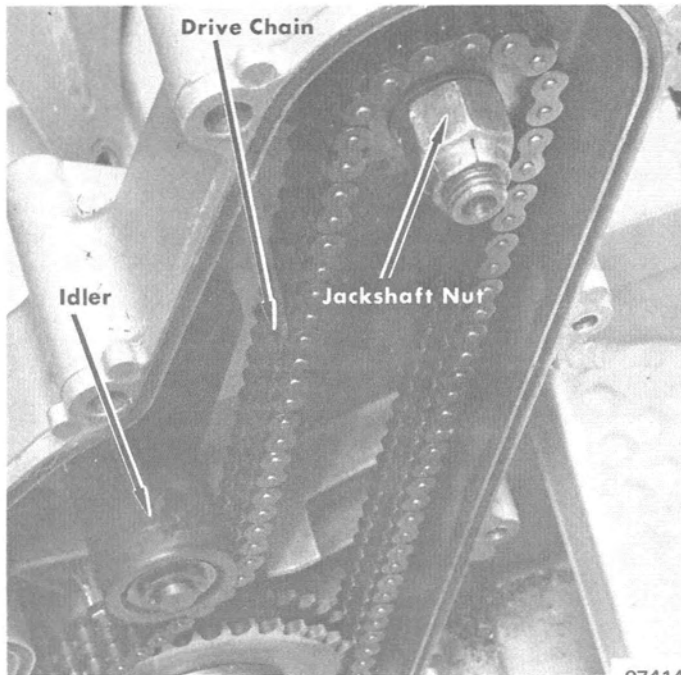

Figure 1. Chain and Jackshaft Nut
5. Remove nut from jackshaft and remove sprocket and chain. (Figure 1)